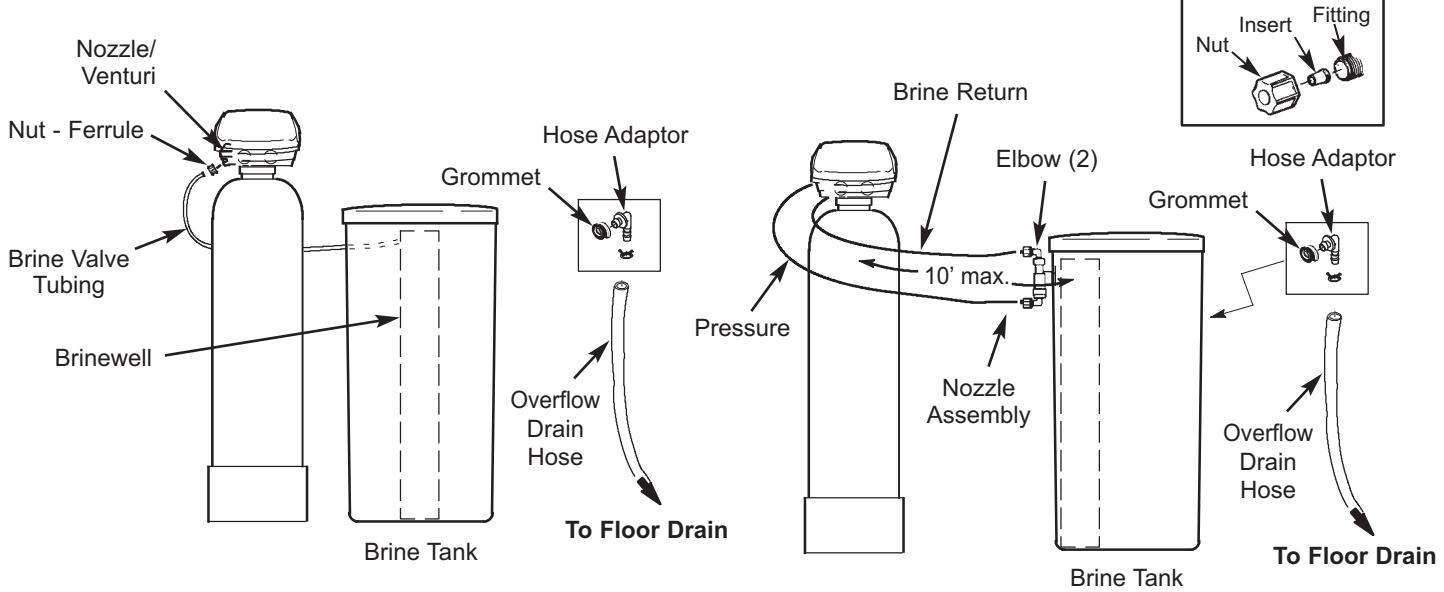

FIG. 7
2. **Softener Models: Move the brine tank assembly into position** nearby the resin tank. Enough tubing is included to allow locating the tank up to 10 feet away from the resin tank (Figure 7).
3a. Softener Model 071 - Connect Tubing: Thread the brine tube through the hole of the brine tank sidewall. Fasten tubing to the nozzle assembly (Figure 7) using the compression nut-ferrule, tightening securely, by hand only.
- i. Install two elbows (in separate parts bag with the brine tank) into the top and bottom of the nozzle assembly (Figure 7).